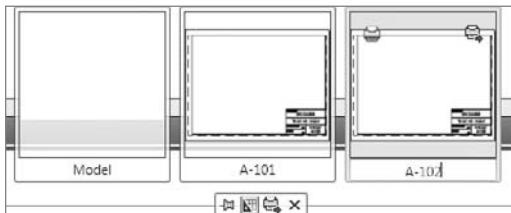

FIGURE 14.58 Renaming the copied A-101 layout
4. Click the Quick View Layouts button in the status bar to display thumbnails of the layouts in your drawing. A second A-101 (2) layout is now listed as one of the layouts.
Right-click on the A-101 (2) layout thumbnail and choose Rename. Rename the layout to A-102 and then press ↲ (see Figure 14.58).